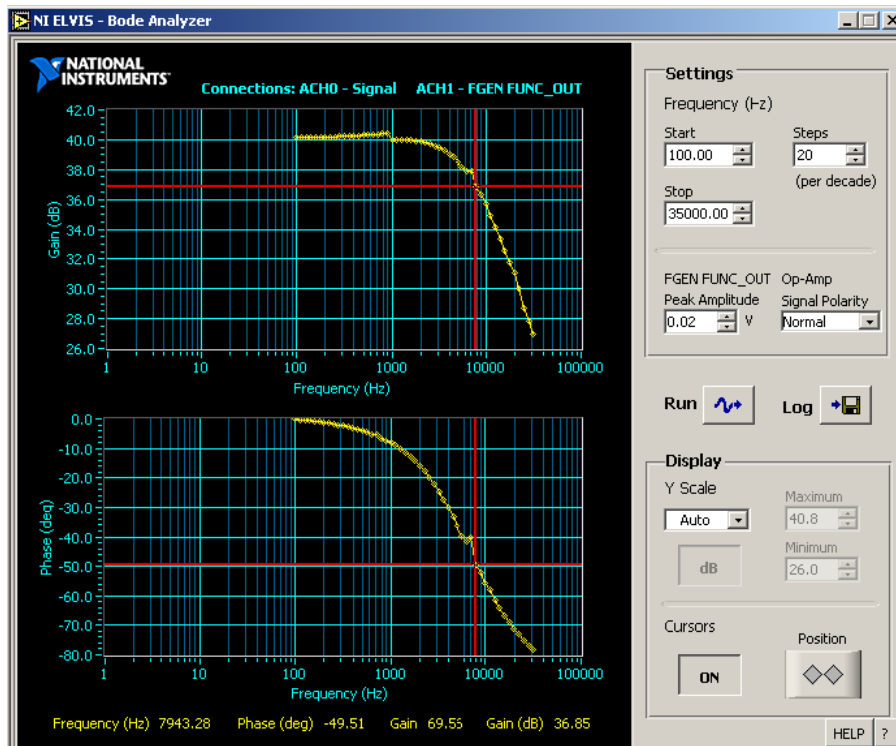

Fig. 9. Bode Analyzer output showing amplifiers low frequency gain and finite bandwidth.
7. Output should appear as shown in Fig. 9. From this analysis note the 3 dB bandwidth of the amplifier.